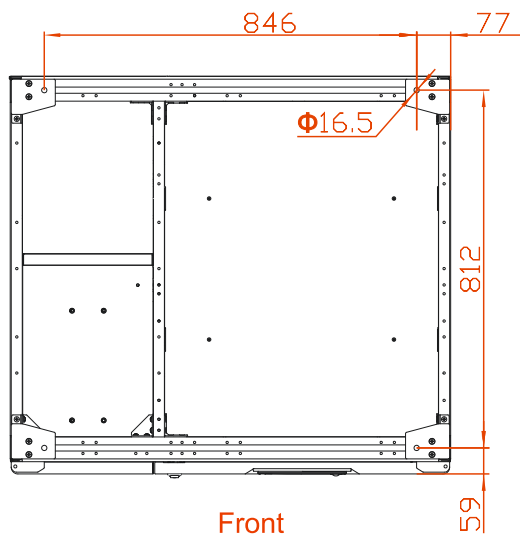
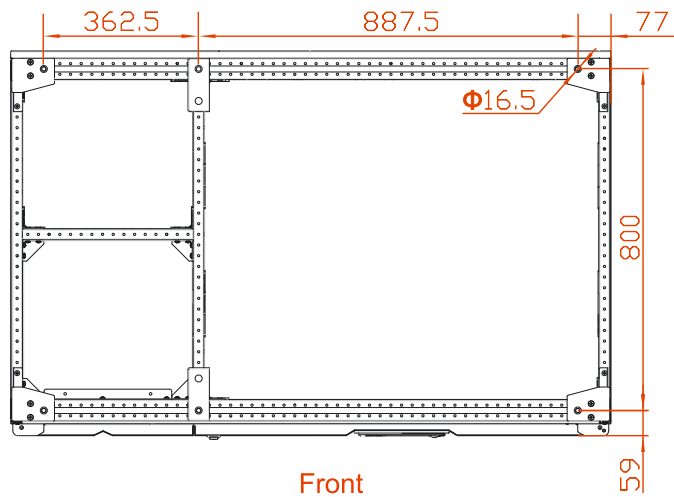
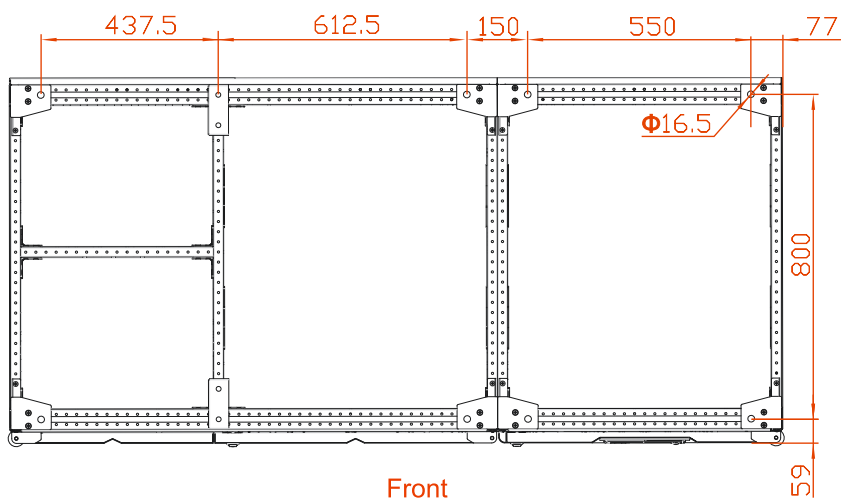

Figure3-11 Pedestal installation size of PS300KVA, PS400KVA (unit: mm)
Figure3-12 Pedestal installation size of PS500KVA, PS600KVA (unit: mm)
Figure3-13 Pedestal installation size of PS800KVA (unit: mm)
- Step 2 Drill six $\phi 16.5$ holes on the ground by impact drill according to the installation hole size of pedestal (as shown in Figure3-11, Figure3-12, Figure3-13, Figure3-14).